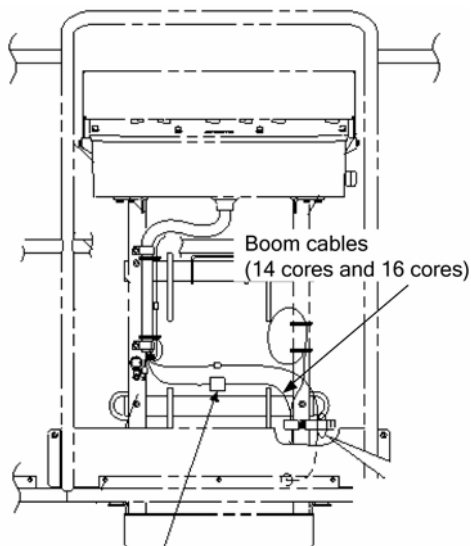

Fig. 2-31
- 5) Disconnect the boom cables (14 cores: Connector 126Gy, 127Gy) and (16 cores: Connector 122Gy, 128Gy, 129Gy). (Fig. 2-31)